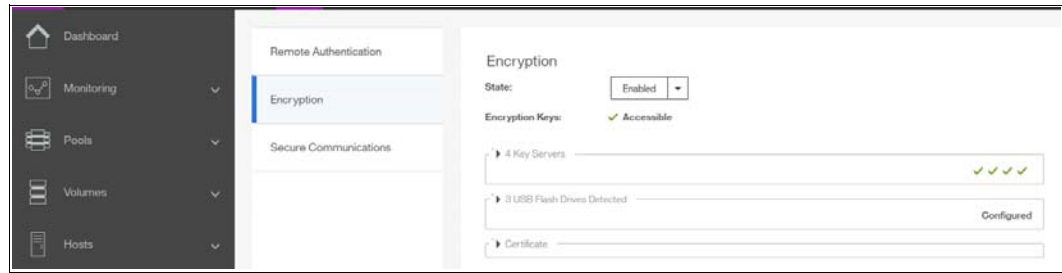

Figure 13-56 Encryption enabled with two key providers available
5. You can confirm that encryption is enabled, as well as verify which key providers are in use, by going to **Settings** → **Security** → **Encryption**, as shown in Figure 13-56 on page 742. Note four green check marks confirming that the master access key is available on all four SKLM servers.